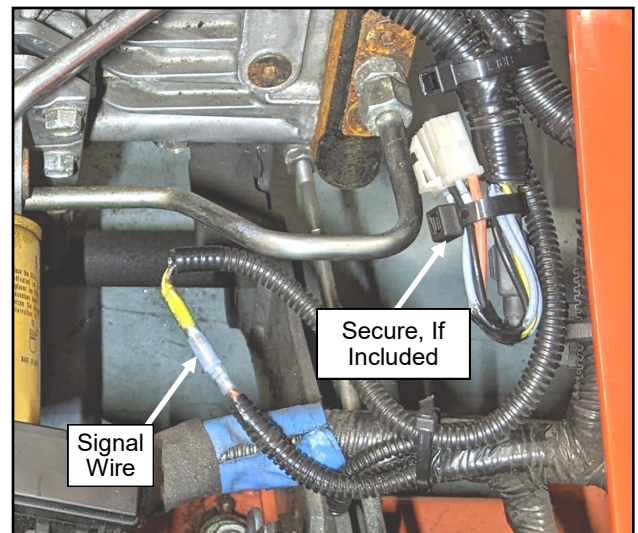

Fig. 7.16 (Locate OEM Signal Wire)
- 7.16 See fig. 7.16. Cut the blue tape on the OEM vehicle wire harness under the seat to expose a male and female bullet terminal. Connect the male bullet terminal at the end of the yellow wire on the A/C wire harness to the female bullet terminal on the OEM harness.